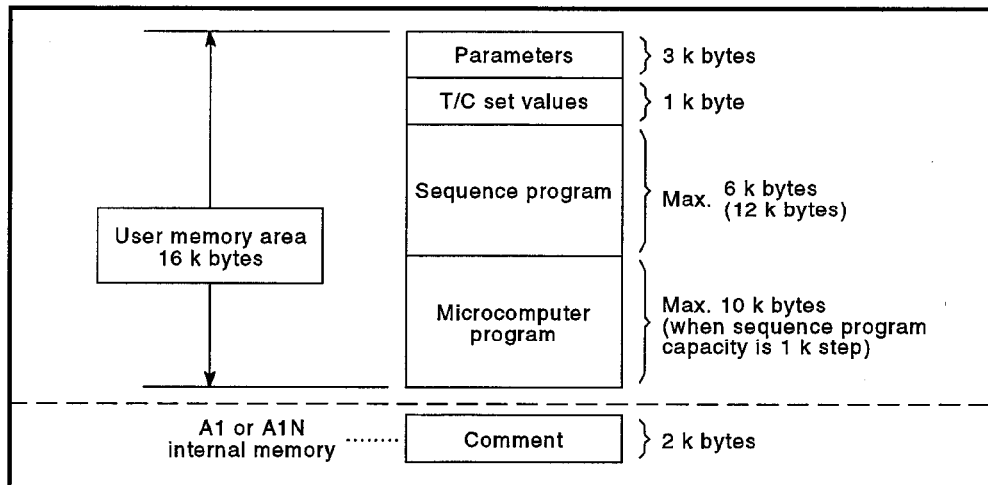

Fig. 9.3 Configuration of the User Memory Area and Comment Area
- (1) Comments are stored in the comment area (internal memory) of the A1 or A1N. The 16 k byte user memory area shown in Fig. 9.3 will not be reduced even when a comment area is set by parameter setting.
- (2) Comments, which are created by using a peripheral device, of 124 points from F0 to F123 can be stored in the comment area of the A1 or A1N.